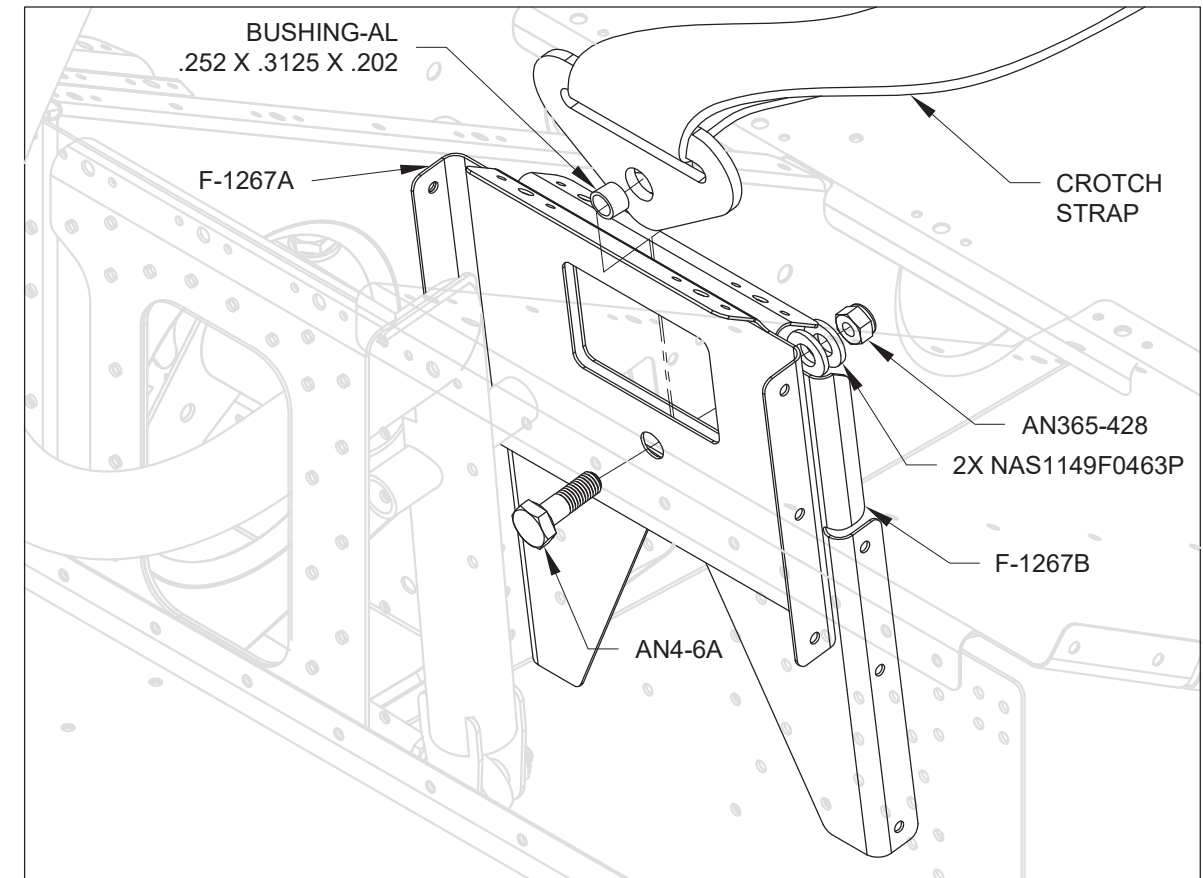

FIGURE 3: CROTCH STRAP INSTALLATION (SOME PARTS NOT SHOWN FOR CLARITY)
Step 4: Attach the end fitting of the crotch straps to the F-1267A and F-1267B Crotch Strap Lugs using the hardware called out in Figure 3.